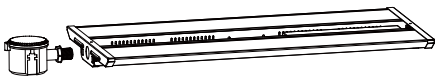

Figure 10
Step2.Knock out the side cover, mount the sensor on the side, do wiring accofing to instruction on sensor; (Figure 10)